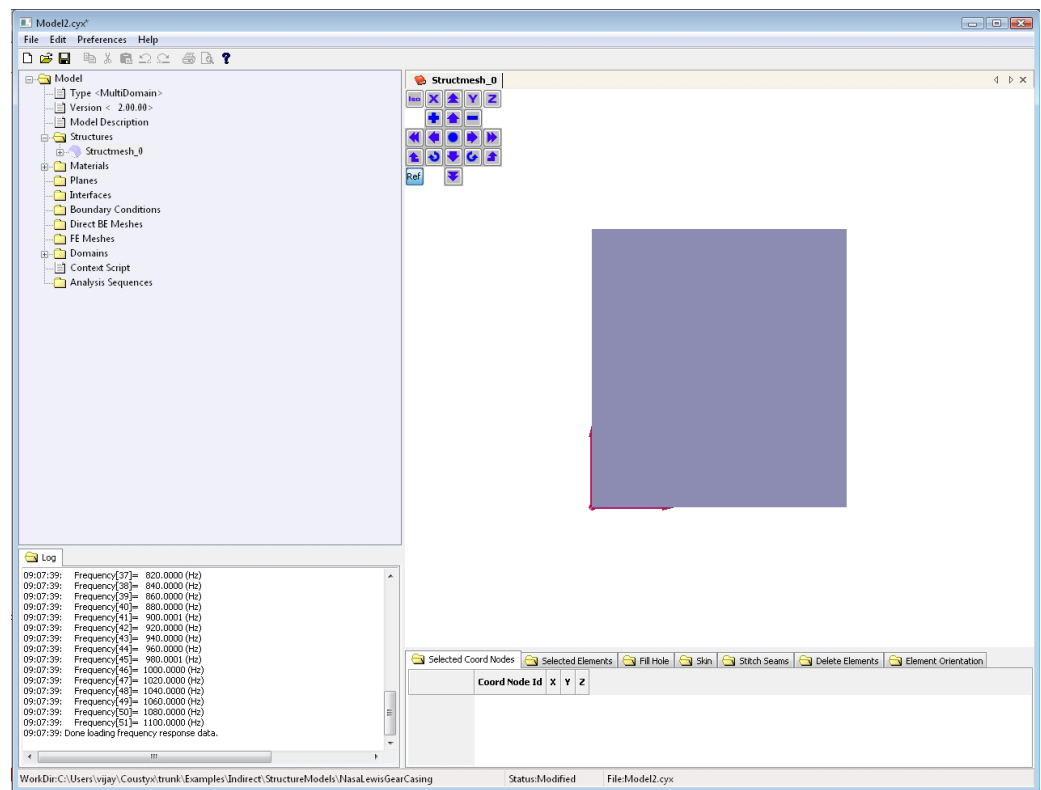

Figure A.7 Structure mesh opened in Coustyx GUI.
- Right-click on **Structmesh_0** or *<Struct Mesh Name>* and select: **Open** to view the structure mesh in the GUI. The structure mesh will appear as shown in Figure A.7.